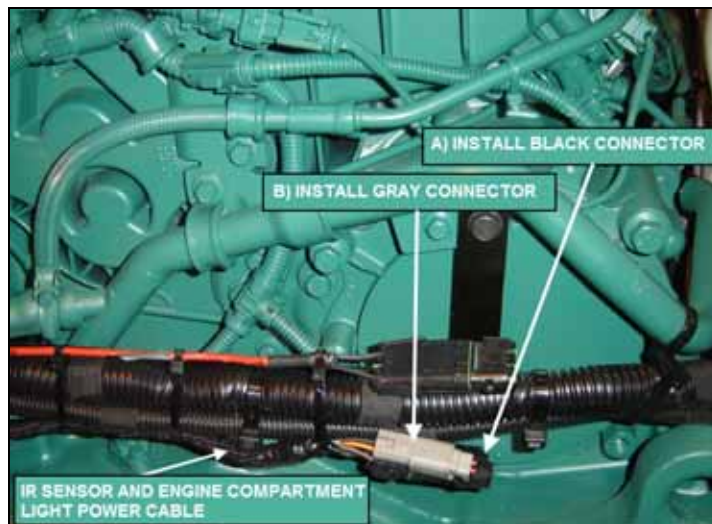

FIGURE 13
- 15) Installation of "black connector" (see figure 13, step A). Inside the remaining section of the harness that was kept (identified IR SENSOR AND ENGINE COMPARTMENT LIGHT POWER CABLE on figure 13), identify and separate circuits 346, OFE (ground) and 347. Install a PED Weather Pack connector.
- 16) Installation of gray connector (figure 13, step B and figure 14). Inside the remaining section of the harness, identify and separate circuits 9B and 0RA2. Install a Deutsch DTM connector. This connector is installed as provision for further use if needed.